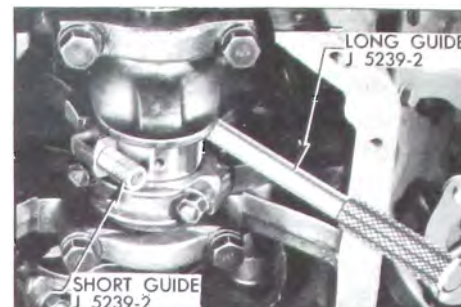

Figure 2-43—Connecting Rod Bolt Guides Installed
4. With No. 1 crankpin straight down, remove the cap with bearing shell from No. 1 connecting rod, then install the short Connecting Rod Bolt Guide J-5239-1 on the lower connecting rod bolt, and install the long Guide J-5239-2 on the opposite bolt, above crankpin. Turn guides down to hold the bearing upper shell in place. See Figure 2-43.
12. Insert piston and rod assembly into its cylinder bore with the long guide pin placed above the crankpin. Push the assembly down until the rod bearing seats on crankpin. See Figure 2-43.